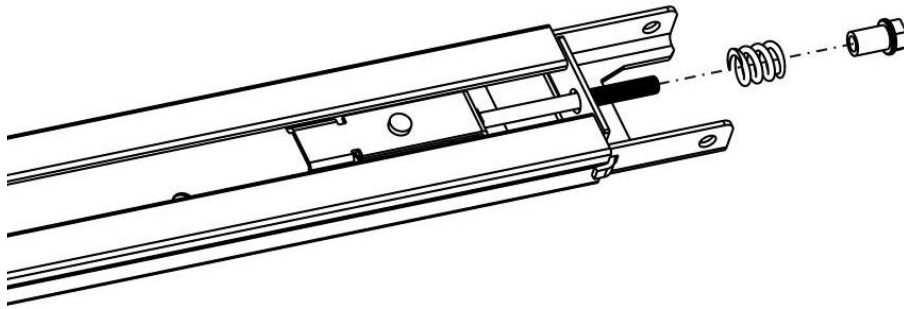

Fig. 10
5. As Fig.10,undo the nut & spring;